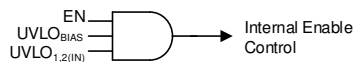

Figure 41. Simplified Turnon Control
Controlling when a single power supply turns on can be difficult in a power distribution network (PDN) because of the high power levels inherent in a PDN, and the variations between all of the supplies. Figure 41 and Table 2 show that the LDO turnon and turnoff time is set by the enable circuit (EN) and undervoltage lockout circuits ($UVLO_{1,2(IN)}$ and $UVLO_{BIAS}$).